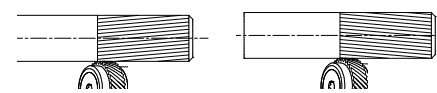
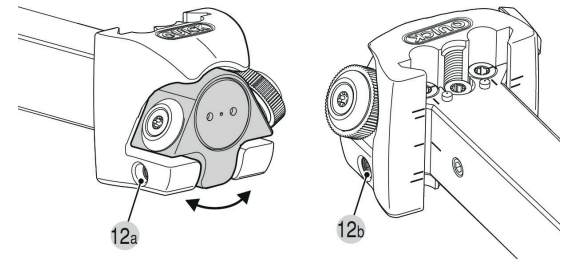

Fig. 7: Profile error
Fig. 8: Correction of the knurl holder
If spiral formation occurs when producing an RAA profile (Fig. 7), it can be corrected by adjusting the knurl holder with the adjusting screws (Fig. 8, pos. 12a and 12b). For this purpose, unscrew screw 12a and adjust the inclination with screw 12b or vice versa. Then, re-tighten both screws.